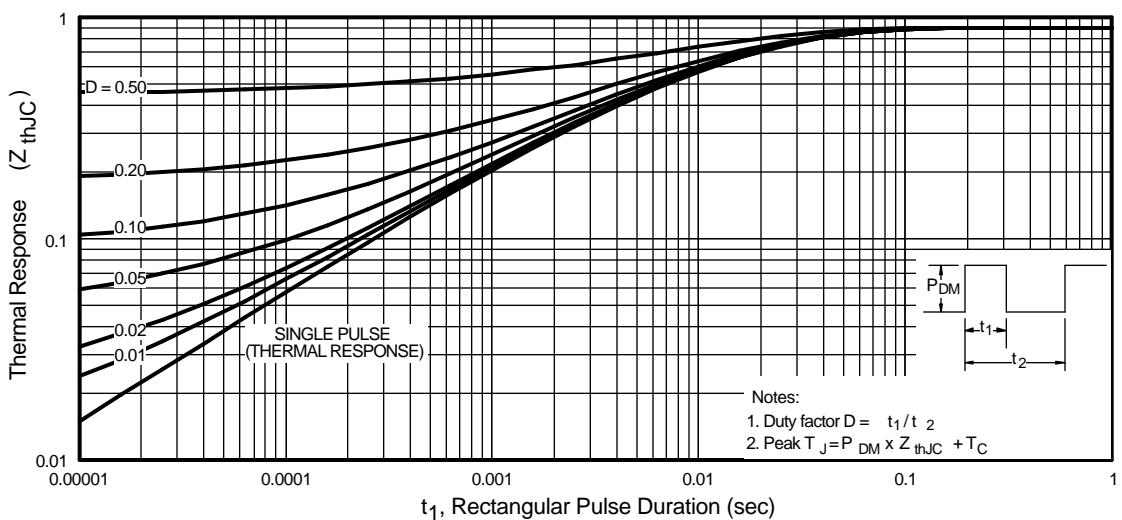

Fig 11. Maximum Effective Transient Thermal Impedance, Junction-to-Case
- ① Repetitive rating; pulse width limited by max. junction temperature. (See fig. 11)
② $V_{DD} = 15V$, starting $T_J = 25^\circ\text{C}$, $L = 220\mu\text{H}$